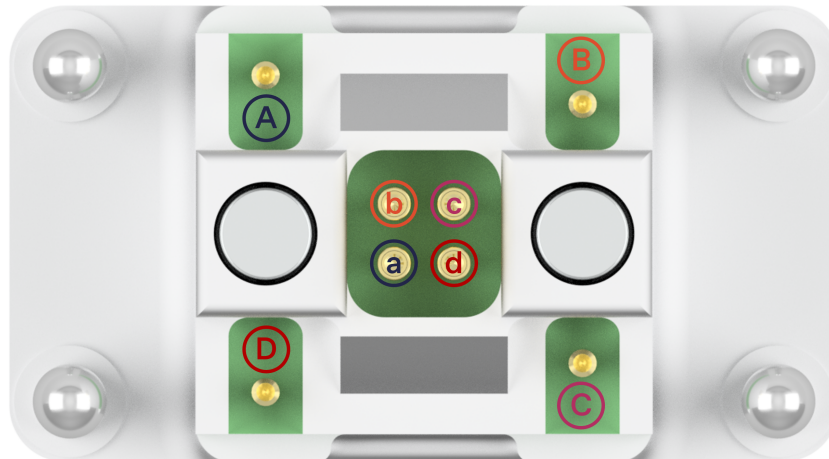

Figure 61: Electrical connection of the spring-loaded contacts on the contact bridge. The pairs are marked by color and capital and small letters.
- Check the electrical connection of the pins with a multimeter according to the Figure 61. The pin pairs are marked by small and capital letters displayed in the same color.